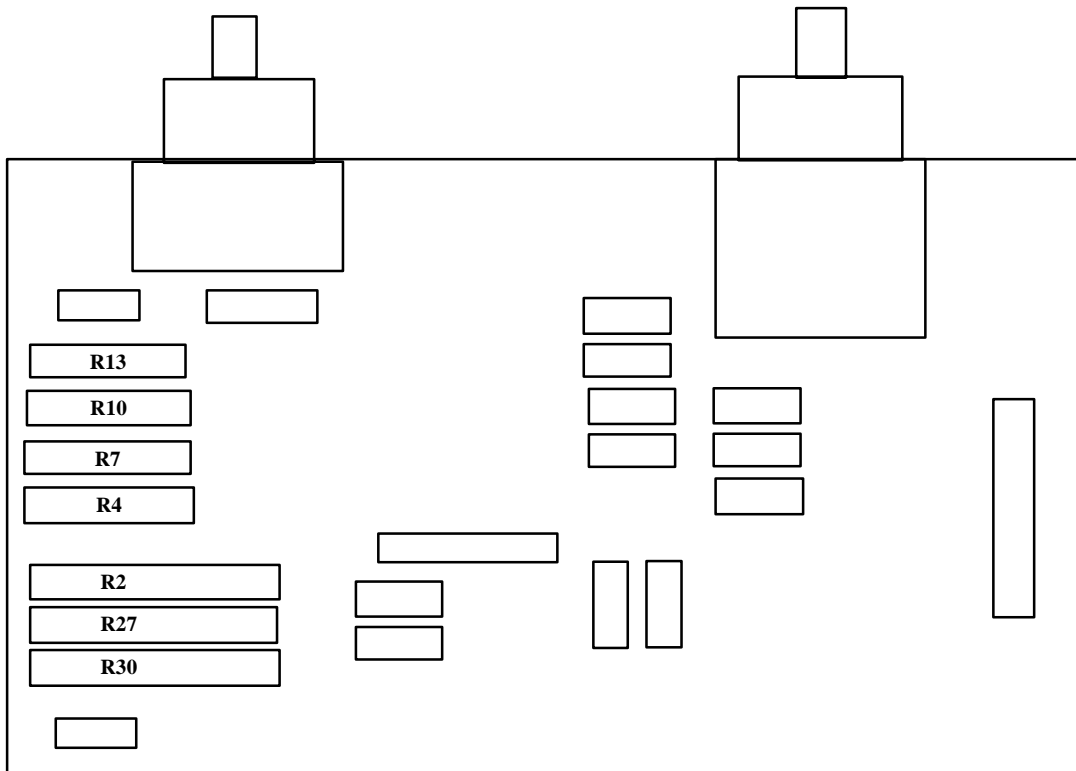

Figure 12. Resistance and installation board.
- (1) Adjust R30 (fig. 12) for an **INSULATION CHECK** meter indication of **0 (R)**.
- (2) Adjust R27 (fig. 12) for an **INSULATION RESISTANCE** meter indication of **0 (R)**.
(1) Connect multimeter to **RESISTANCE CHECK** meter terminals, observing polarity. Adjust resistance standard to 22 Ω . Adjust R13 (fig. 12) ccw. Record multimeter indication, disregarding polarity sign. Adjust R13 (fig. 12) cw. Record multimeter indication, disregarding polarity sign.
(2) Determine the mean value of indications recorded in (1) above. Adjust R2 (fig. 12) to this value, then disconnect multimeter.
(3) Set resistance standard to 22 Ω and adjust R13 (fig. 12) for a **0** indication on **RESISTANCE CHECK** meter (R).
(4) Set resistance standard to 15 Ω and adjust R10 for a **0** indication on **RESISTANCE CHECK** meter (R).
(5) Set resistance standard to 8 Ω and adjust R7 for a **0** indication on **RESISTANCE CHECK** meter (R).
(6) Set resistance standard to 4.21 Ω and adjust R4 for a **0** indication on **RESISTANCE CHECK** meter (R).